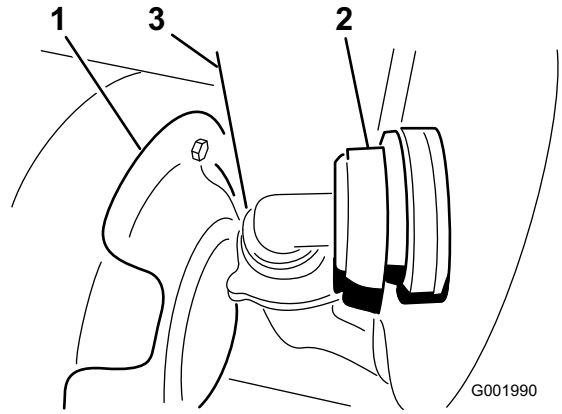

Figure 57
3. Disconnect the hose located on the lower-front face of the tank (Figure 57).
Note: You may need to push the heat shield (Figure 57) back as you remove the cover.
7. Connect the hose on the front of the tank (Figure 57).